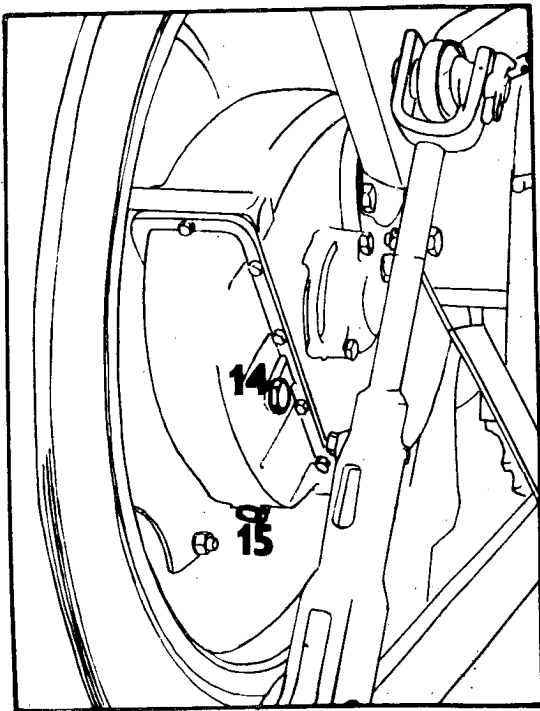

Fig. 9
15. Rear half axle oil filling hole (Fig. 9/14).
16. Rear half axle oil draining hole (Fig. 9/15).